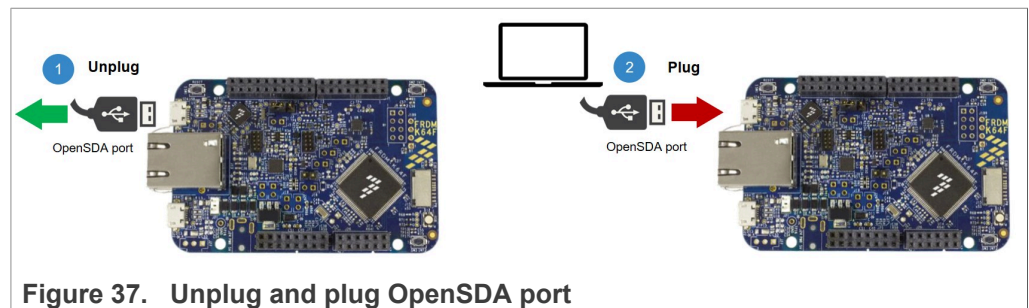

Figure 37. Unplug and plug OpenSDA port
1. Unplug and plug again the USB cable to the OpenSDA USB port as shown in Figure 37: